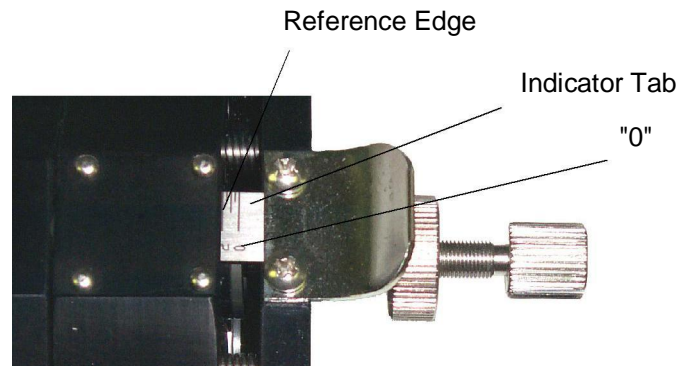

Figure 5.7 Indicator Tab Alignment
5.5.2 Indicator Tab Alignment (Figure 5.7)